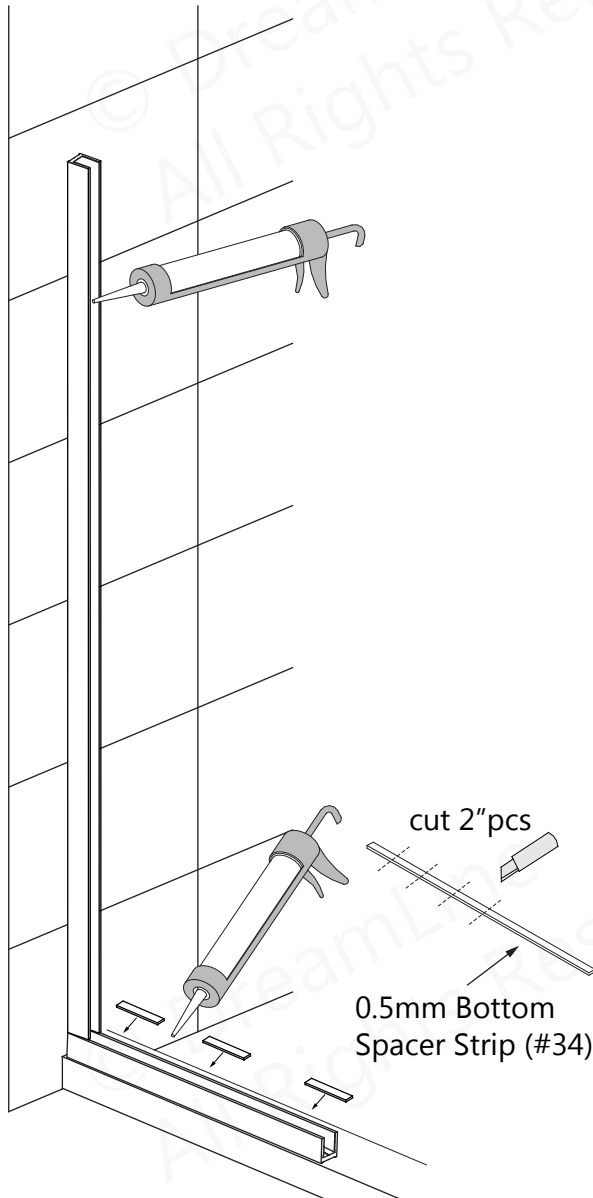

Fig 7
7. Apply a bead of silicone into the length of the U-Channels first. Then, cut and add 2" pieces of the **0.5mm PVC Glass Spacers (#34)** into the **Bottom U-Channel (#29)** to protect the bottom and corners of the glass. **(Fig 7)**